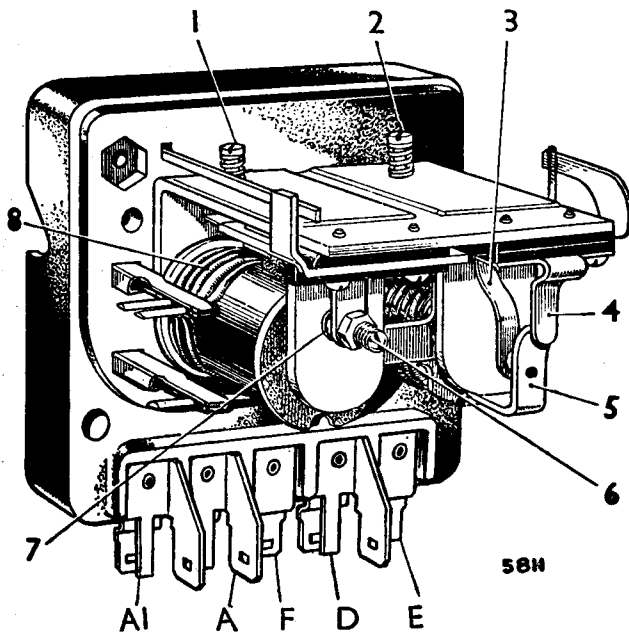

Fig. N.3
- (1) Disconnect the cables from the control box terminals 'A' and 'A1' and join them together.
- (2) Connect the negative lead from a voltmeter (0-20 volts) to control box terminal 'D' and the positive lead to terminal 'E'.
- (3) Slowly increase engine speed until the voltmeter needle flicks and then steadies. This should occur between 15.8 and 16.7 volts, depending on the ambient temperature.
- (4) If adjustment is required, switch off the engine and remove the control box cover.
- Turn the voltage adjustment screw (1) (Fig. N.3), in a clockwise direction to raise the voltage and anti-clockwise to lower it. Turn only a fraction of a turn at a time. This adjustment should be completed within 30 seconds or the settings will be affected by heat. Do not run the dynamo at a higher speed than is necessary for the adjustment to be made.